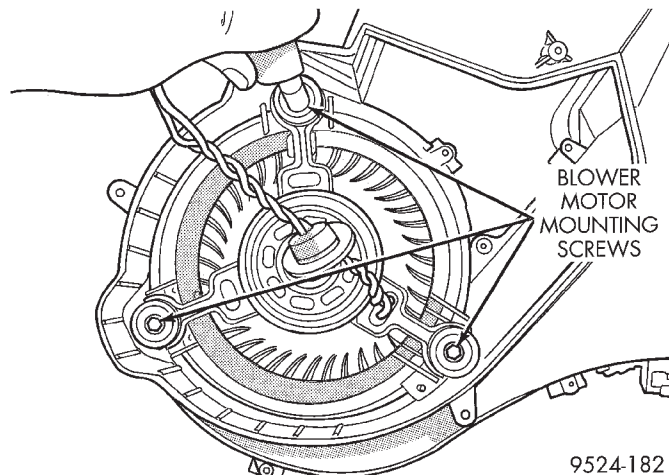

Fig. 18 Blower Motor Screws
(5) Remove mounting screws for blower motor (Fig. 18).